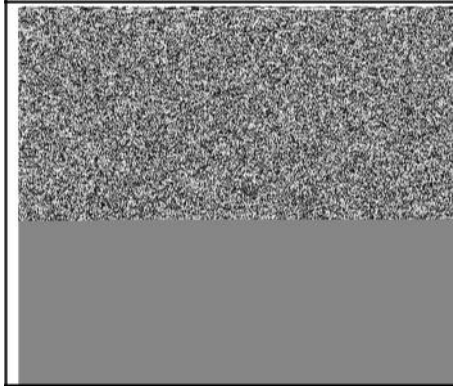

Figure 25
2. Install new gasket and adapter. Install screws (**A**, Figure 25) and torque to values listed in Section 12 - Engine Specifications.